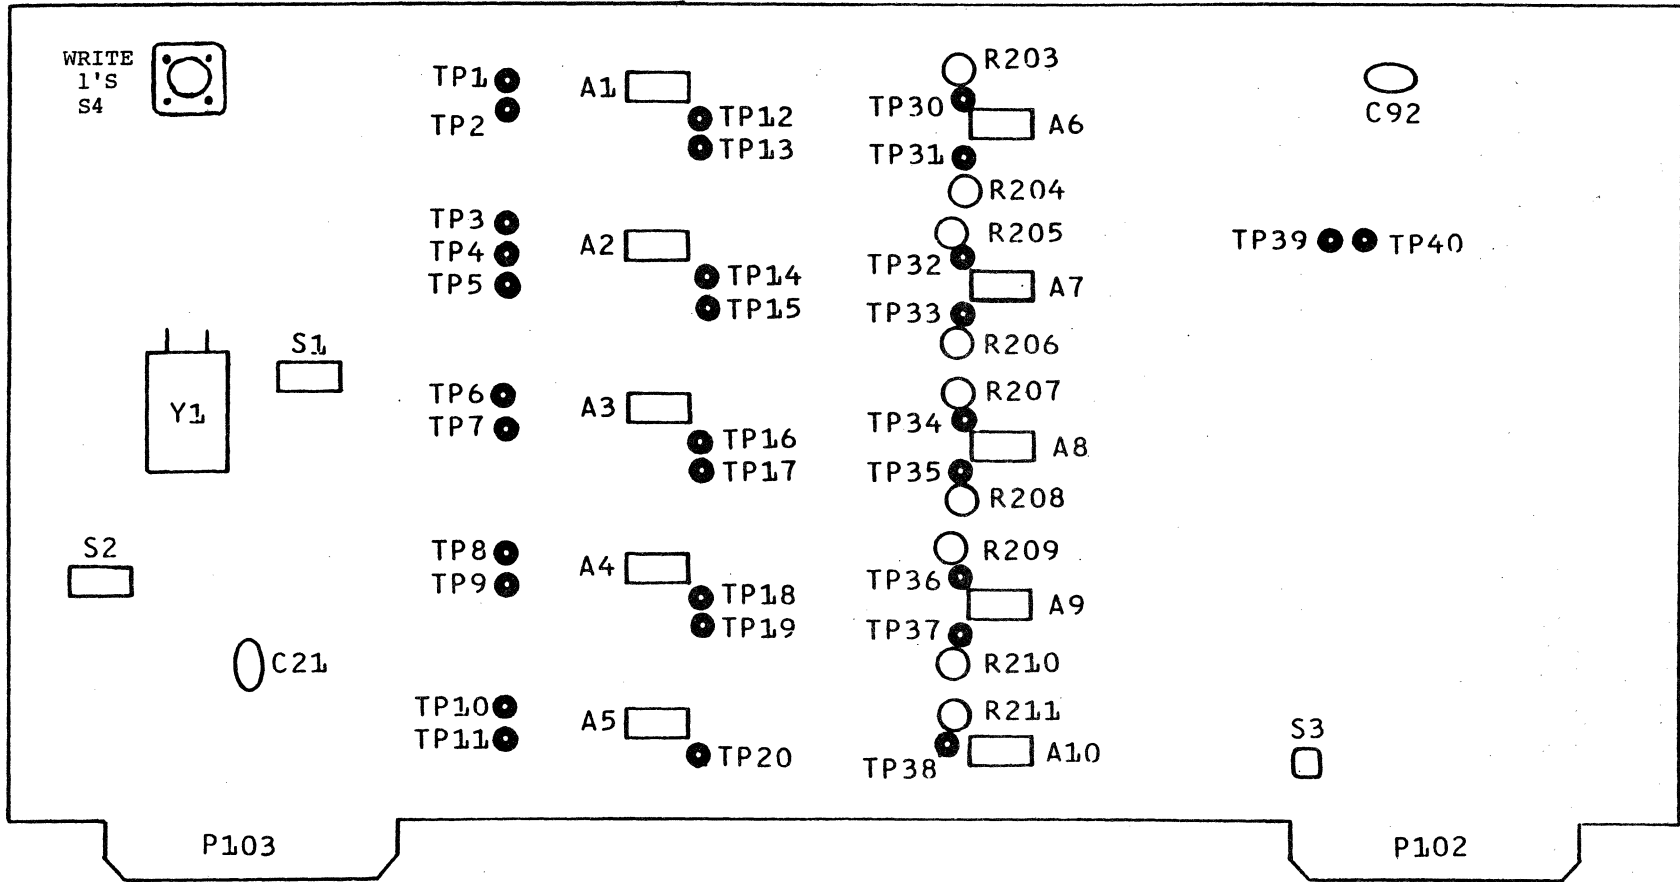

Figure 5-5. Test Points and Adjustment Potentiometers, Dual-Mode PWB
- a. Load known-density master skew tape on transport. Connect counter to TP10 on data board. (See Figure 5-5 for test point locations.)
- c. Referring to Figure 5-5, connect oscilloscope to TP30 and ground.
- d. Connect oscilloscope to TP10 on data board (Figure 5-5) and ground.